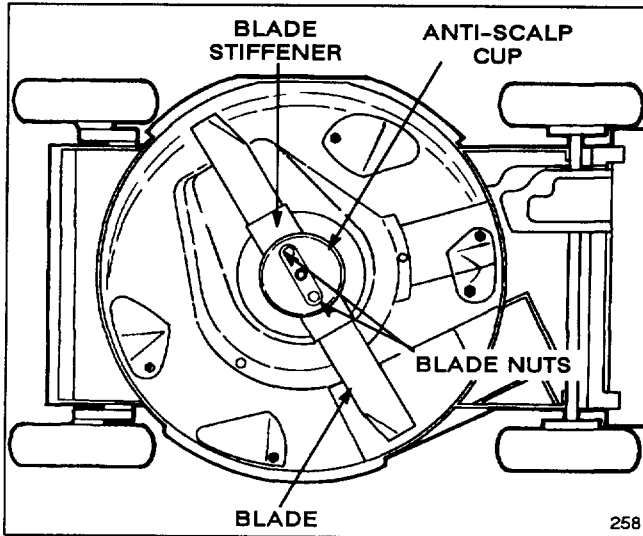

Figure 16
3. Tip mower on its right side (Fig. 16). Avoid rotating blade because starting problems may result.
5. REMOVING BLADE—Grasp end of blade using a rag or thickly padded glove. Remove (2) blade nuts, anti-scalp cup, blade stiffener, and blade (Fig. 16).